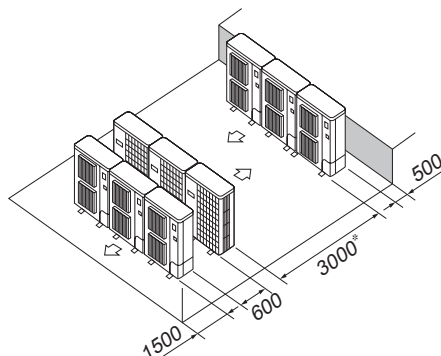

Fig. 4-17
- Multiple parallel unit arrangement (Fig. 4-17)